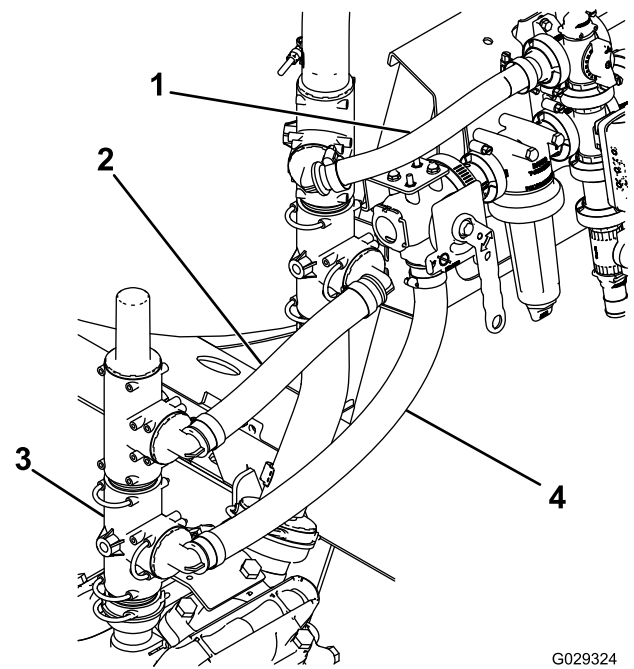

Figure 5
6. Rotate the hose tee near the eductor valve 45° and install the new bypass hose (Figure 5).
7. Remove the horizontal hose tee from the side of the pump tee and attach it to the top of the pump tee (Figure 5).
8. Connect the supply hose to the side of the pump tee and the bottom of the eductor valve (Figure 5).
9. Connect one end of the relief hose to the upper pump tee and the other to the lower tee near the eductor (Figure 5).